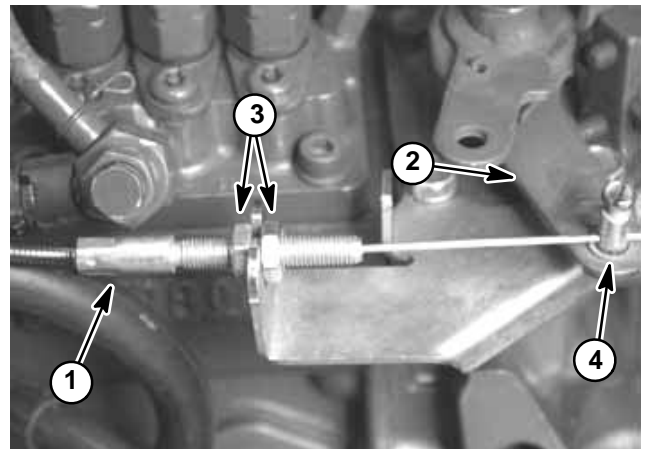

Figure 2
3. If necessary, throttle control can be adjusted by loosening cable jam nuts and repositioning control cable until speed control lever contacts high speed screw when the throttle control lever is in the **FAST** position (Fig. 2). Tighten cable jam nuts after adjustment has been completed.